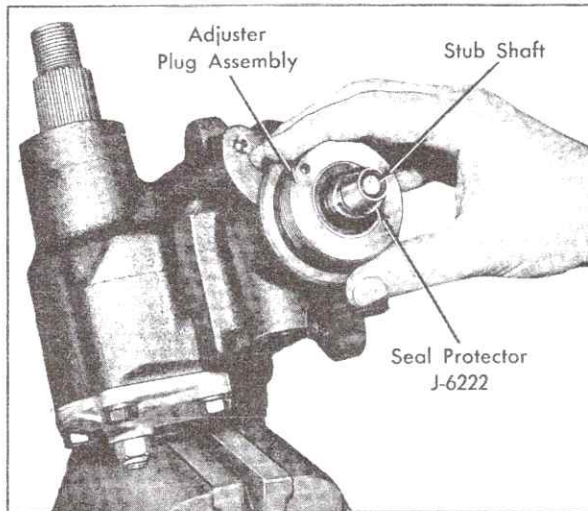

Fig. 9-35 Installing Adjuster Plug Assembly
7. Install adjuster plug assembly over end of stub shaft, Fig. 9-35, and tighten just enough to make certain that all parts are properly seated in gear housing. Remove Seal Protector J-6222.